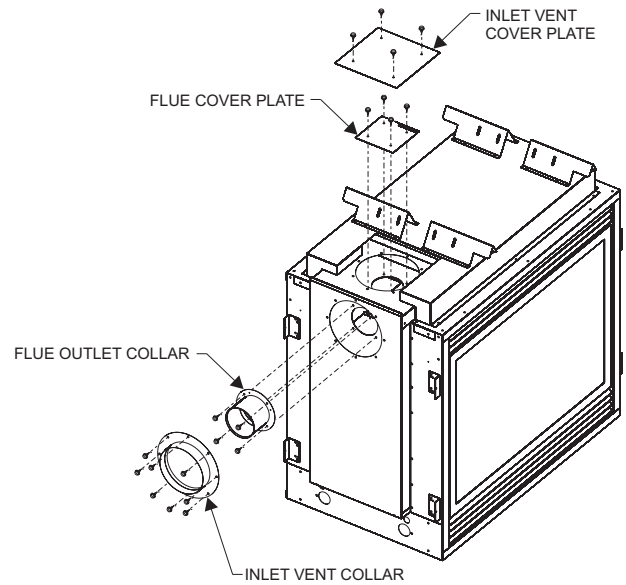

Figure 11
4. Reinstall the inlet cover plate over the top inlet opening with 4 screws. See Figure 11.